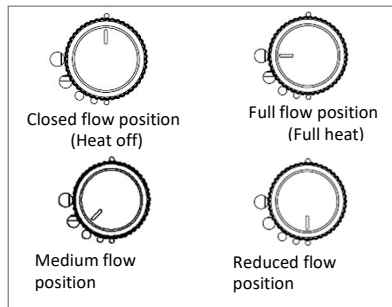

Figure 2: Adjusting the control lever
5. Then adjust the height of the flame by turning the control lever(s) from full flow (large circle) to reduced flow (small circle) (See Figure 2).